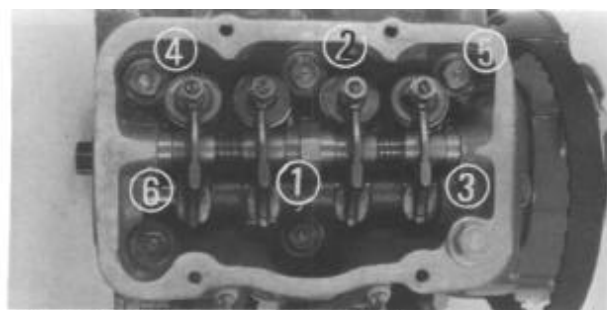

Fig. 3-52 Cylinder head bolt tightening sequence
7. Install the cylinder head on the cylinder block. The tightening sequence is as shown in Fig. 3-52.